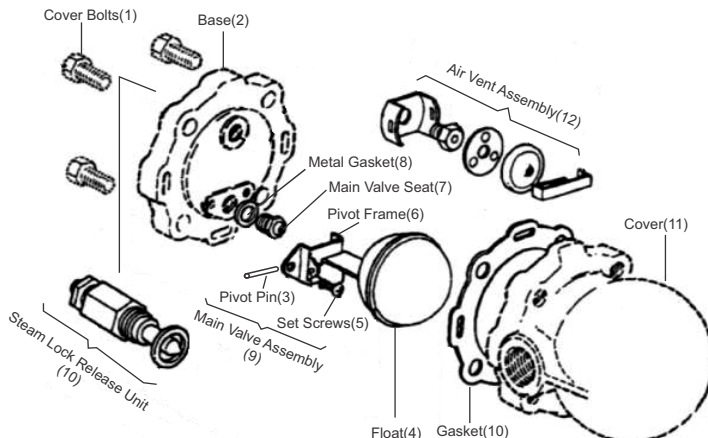

Figure 8 : Maintaining the main valve assembly
7.4 Maintaining / Replacing the main valve assembly : (Refer to Figure 8)
9. Available Spares: (Refer to Figure 8)